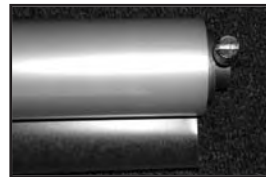

Figure 1
2. To load the top film, insert 1" core as shown on Figure 1 (Note the direction that the film is wound)